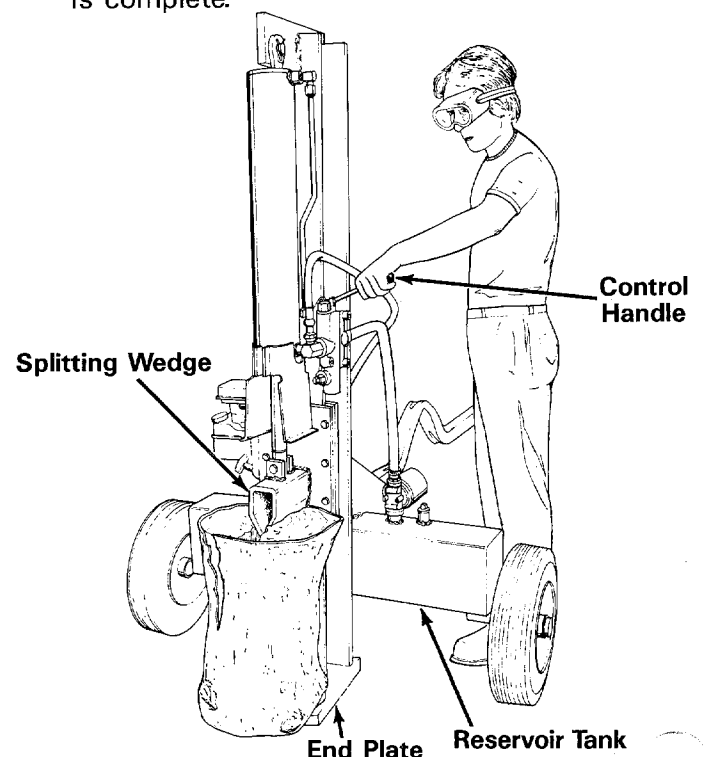

FIGURE 15 - Model PRO/20 Shown
Use the log splitter only on a level, hard surface. Never stand next to the splitting wedge when operating the log splitter. Always stand behind the reservoir tank. See figure 15. Never attempt to cut a log in half sideways. Always split the log lengthwise.
4. **STEP BEHIND THE RESERVOIR TANK** (see figure 15) and press the control handle down until the log is split.